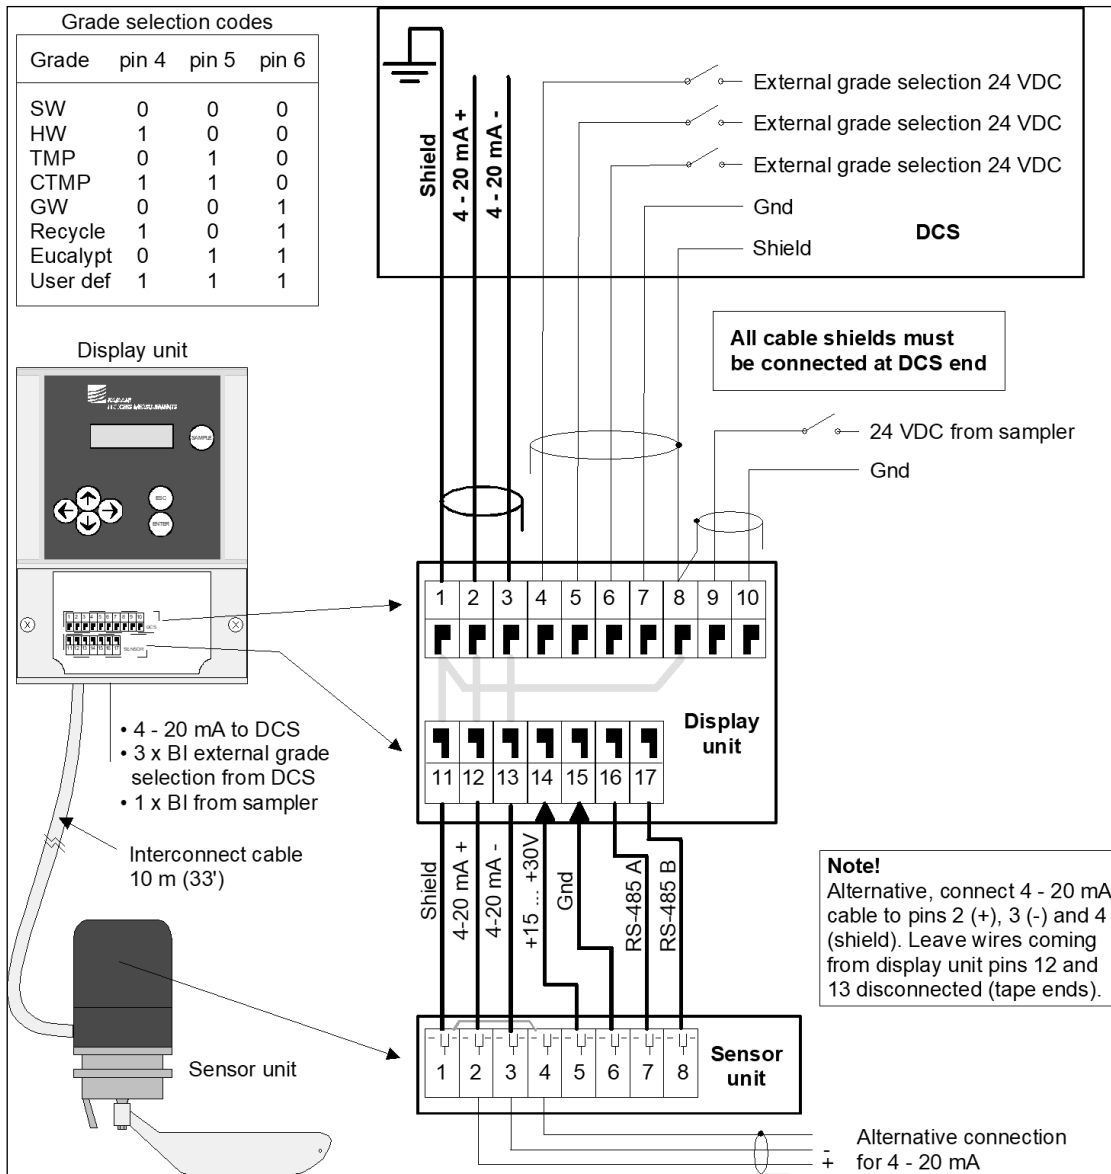

Figure 3.1. Wiring between sensor unit and display unit.
2. Install the inter-connect cable coming from sensor unit and 4 - 20 mA cable coming from DCS to terminals as shown in figure 3.1.